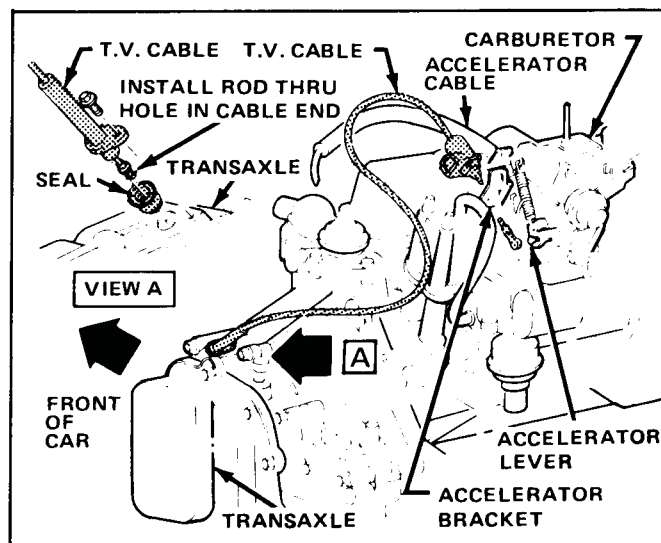

Figure 7A-17 T.V. Control Cable
8. Remove top transaxle mount and bracket assembly, Figure 7A-19. It may be necessary to raise engine to allow removal.